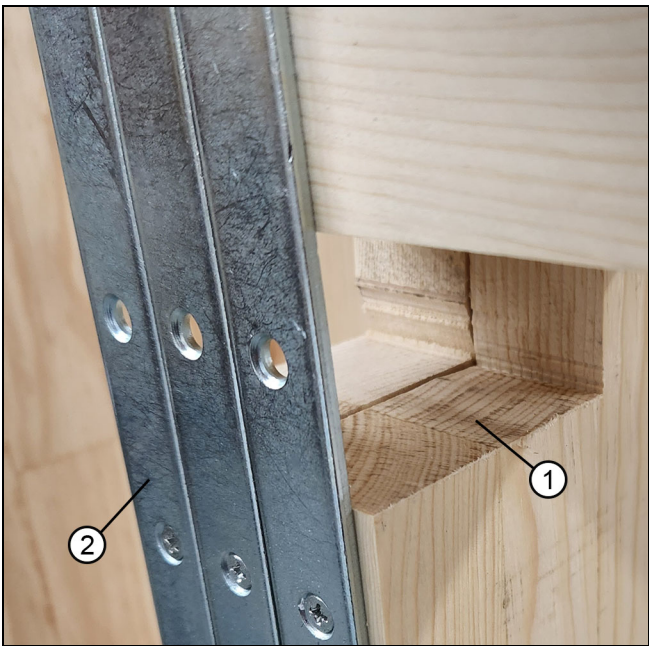

Figure 2 Notched stud
- 2. Option B: Measure the height of your door and cut a 1 1/4" x 2 1/2" deep notch lined up with the belt pass-through on the corner key. When installation is complete cover the notch with a steel tie plate. See Figure 2.